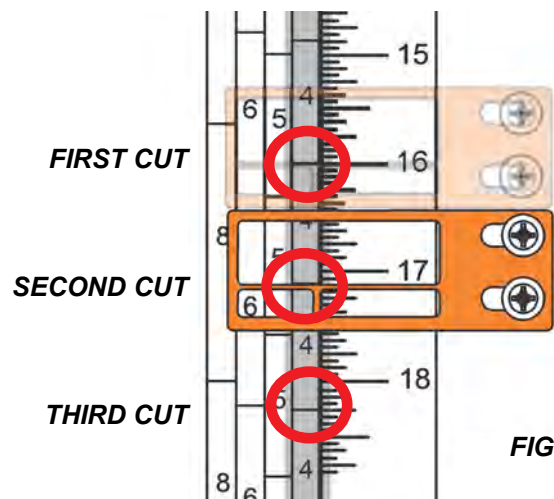

FIG. 4-7
2. Adjust the quarter scale so a 4/4 mark (highlighted gray in Fig.4-7) is aligned with the line on the indicator.